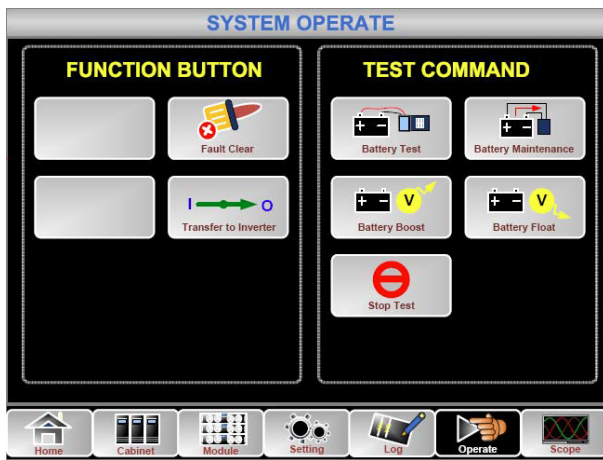

Fig. 52. Battery maintenance
1. Discharging by manual. Enter the menu Operate, as is shown in Fig.52 and touch the icon "Battery maintenance"